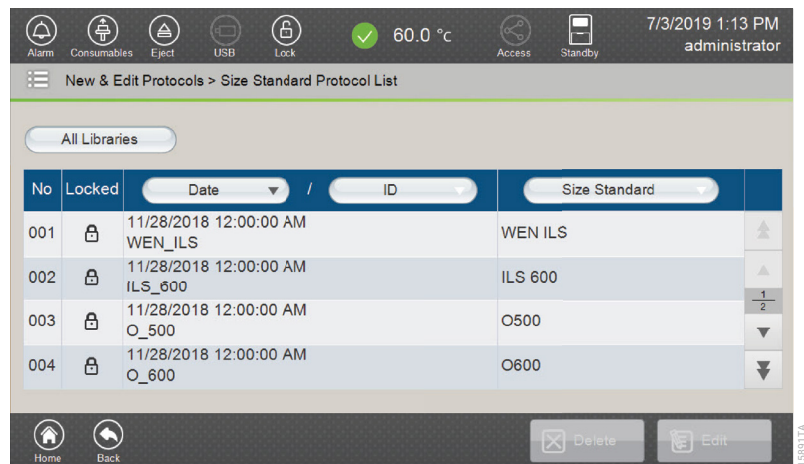
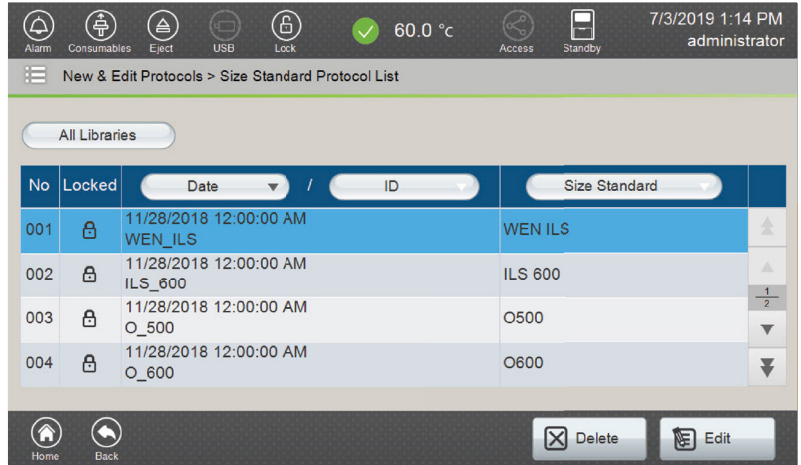

Figure 150. 'Size Standard Protocol List' screen.
Figure 151. 'Size Standard Protocol List' screen with selected Size Standard.
- Select **Size Standard Protocols** in the 'New & Edit Protocols' screen (Figure 117). This opens the 'Size Standard Protocol List' screen (Figure 150).
- Locate the desired Size Standard protocol in the list using scroll buttons on the right side of the list. Select the size standard you want to edit on the 'Size Standard Protocol List' screen (Figure 150). This will activate **Edit** and **Delete** in the footer (Figure 151).
2. Select **Size Standard Protocols** in the 'New & Edit Protocols' screen (Figure 117). This opens the 'Size Standard Protocol List' screen (Figure 150).
3. Locate the desired Size Standard protocol in the list using scroll buttons on the right side of the list. Select the size standard you wish to delete on the 'Size Standard Protocol List' screen (Figure 150). This will activate **Edit** and **Delete** in the footer (Figure 151).